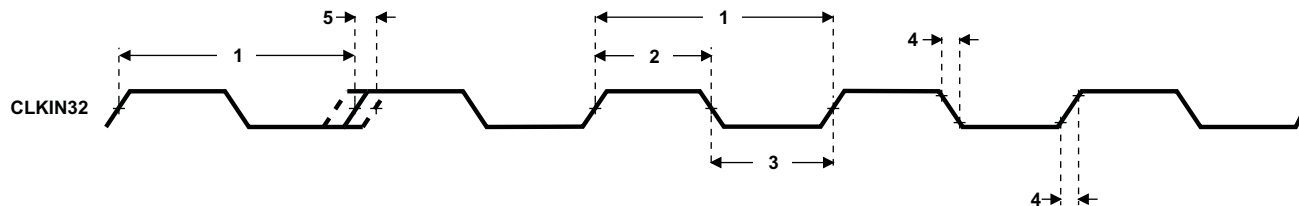

**Figure 7-14. AUD\_CLKINx Timing**
**Table 7-17. Timing Requirements for AUD\_CLKINx (1) (see Figure 7-14)**